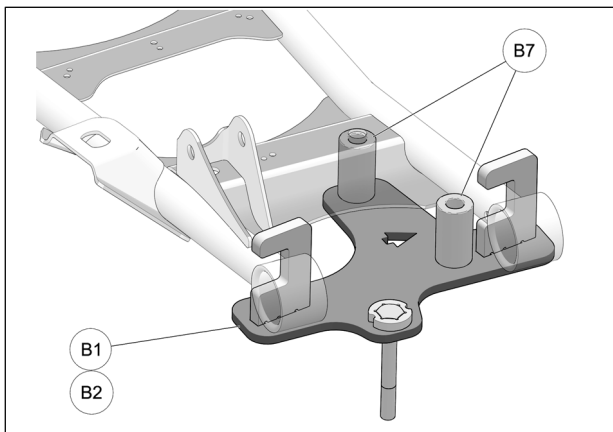

Fig. 7
7. Install spacer bushings (**B7**) between anchor bracket (**B1-B2**) and suspension arm. Align spacer bushings and bolt holes in bracket. See Fig. 7